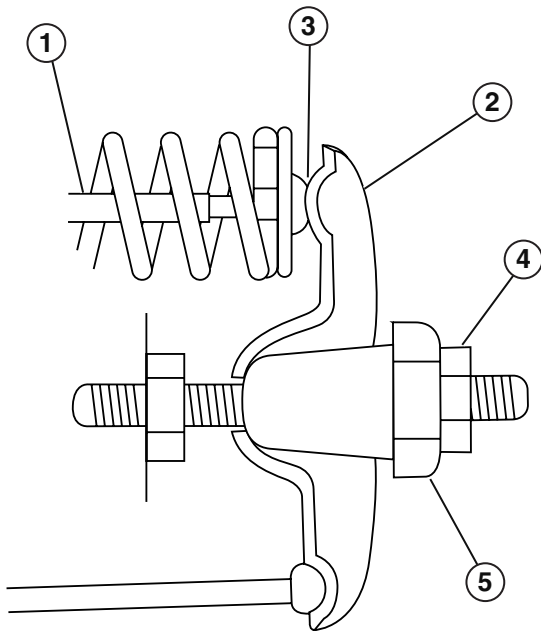

Figure 54
5. Insert a feeler gauge between the rocker arm and the push rod and check for clearance (see Figure 54). See Table 2 for valve lash specifications.